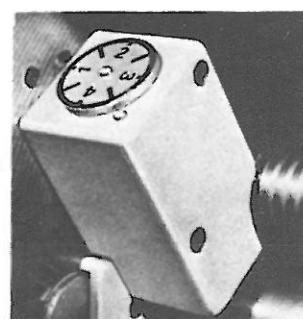

Fig. 12
**Threading dial indicator — English:** To cut threads of even number per inch, close the leadscrew nut at any line on the dial; to cut threads of odd number per inch, close the leadscrew nut at any numbered line. Ensure that the appropriate dial line coincides exactly with the fixed point on each pass, see Fig. 12.